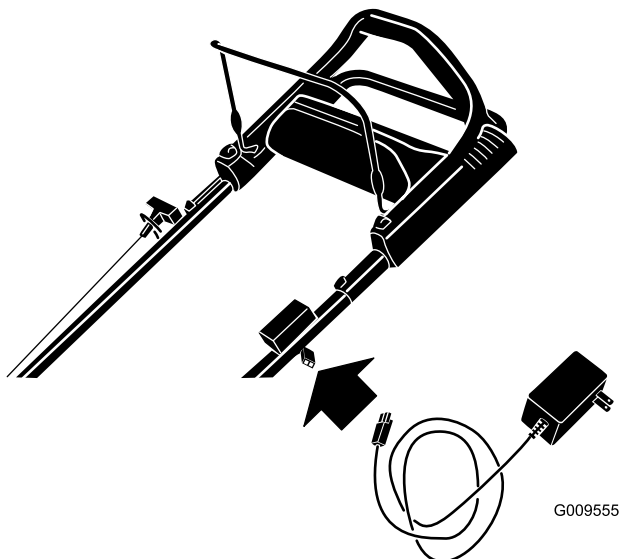

Figure 25
1. Connect the charger to the machine wire harness located below the electric starter (Figure 25).